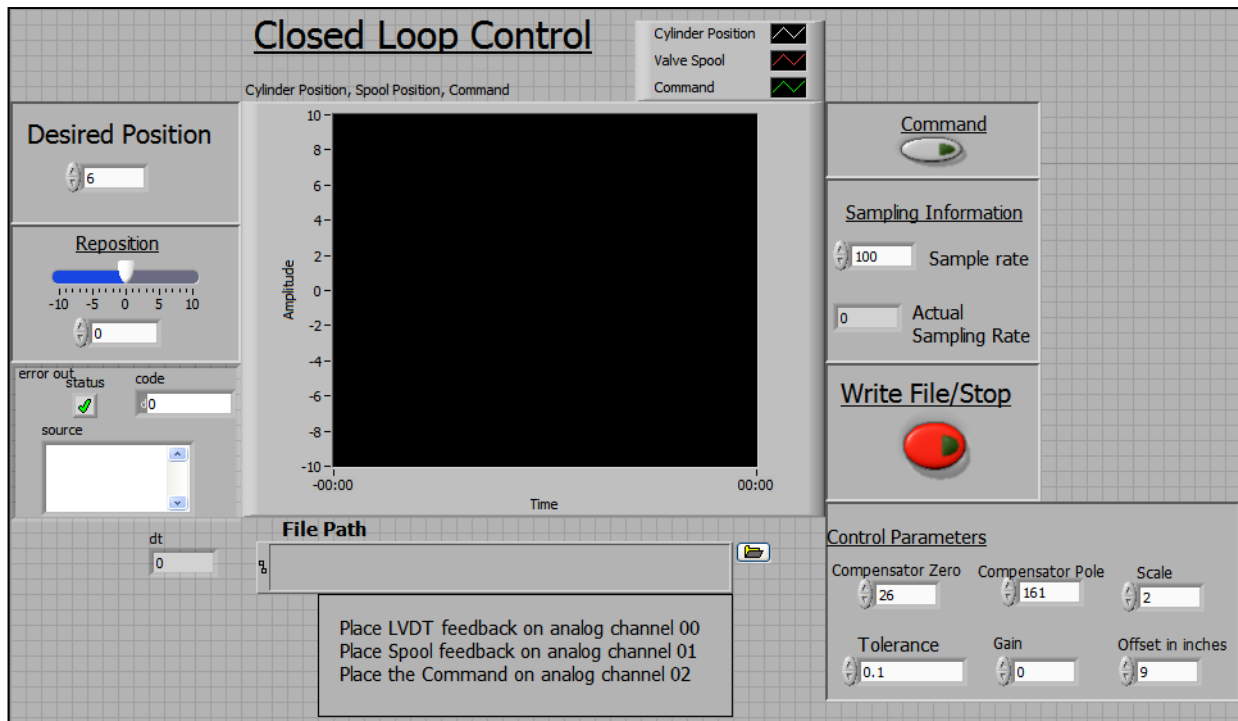

Fig. 1. The Front Panel (Graphical User Interface)
- The front panel of the closed-loop LabVIEW program for *step position changes* is shown in Fig. 1. The *Desired Position* box on the upper left specifies the desired position (*in inches*) of the hydraulic cylinder.